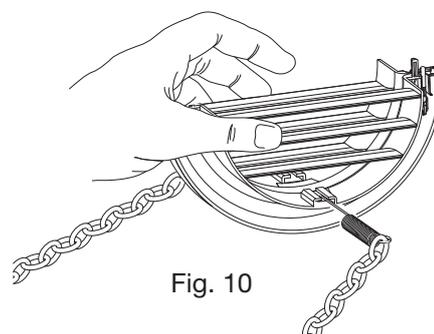

Fig. 10
- Bend the external grids back, gripping them with your free hand where they bend, and insert your fingers inside the single fins. (Fig. 10)